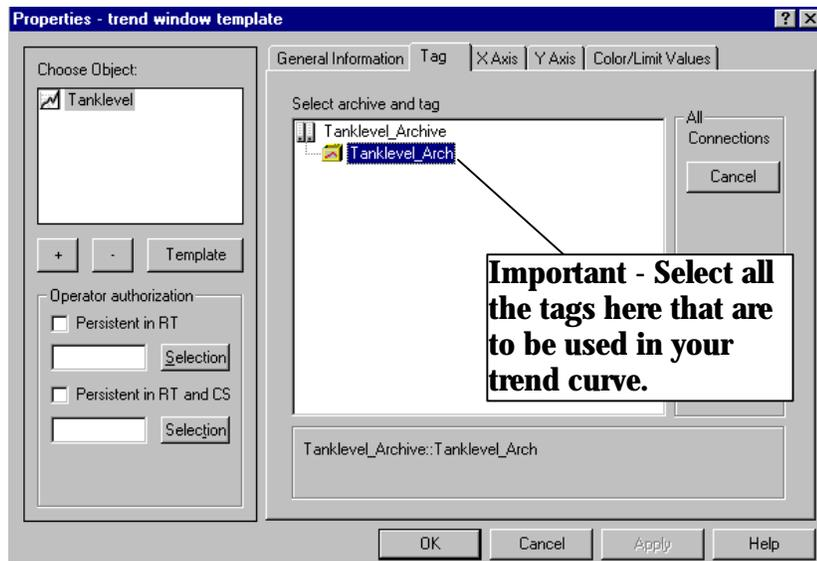

Figure 3.6b WinCC Project "QckStart"; Creating a Trend Window Template.
- Now select the **Tag** tab. Double click the archive name, "Tanklevel_Archive", and select the tags you want to trend. For this project select the "Tanklevel_Arch" tag. Make sure it is highlighted to be selected. See Figure 3.6b.